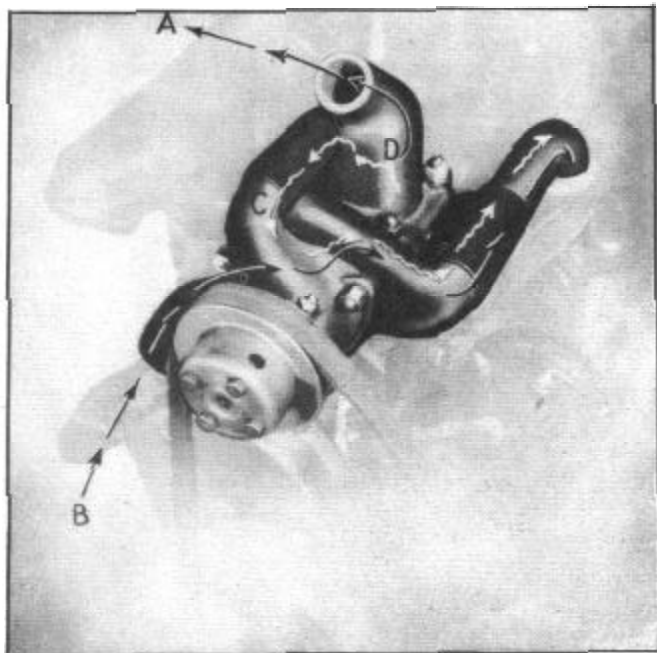

Figure 2--Water Circulation
The cylinder head water outlet (D) Figure 2 has two outlets, one a small by pass outlet (C) and the other the full size outlet (A) to the radiator.